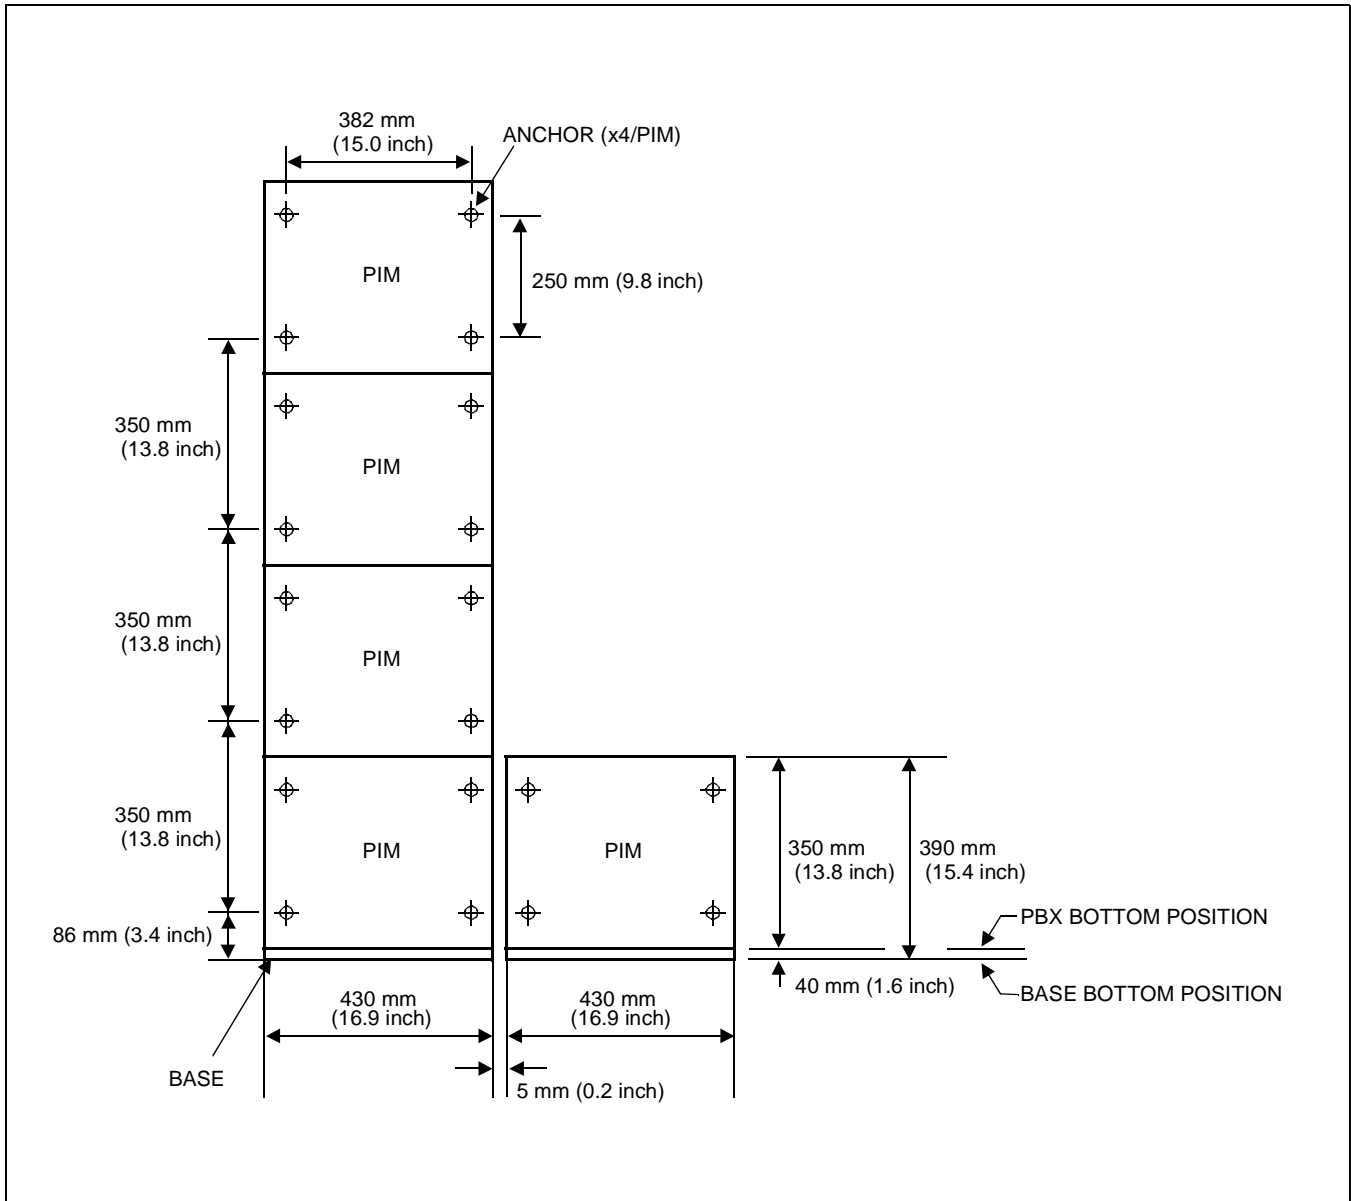

Figure 002-2 Wall Mounting Points
- Locate and mark the wall mounting points as shown in Figure 002-2.